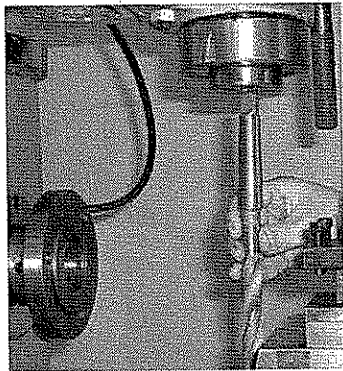
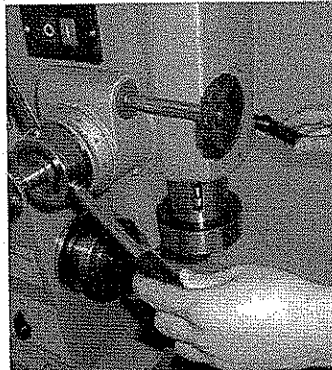
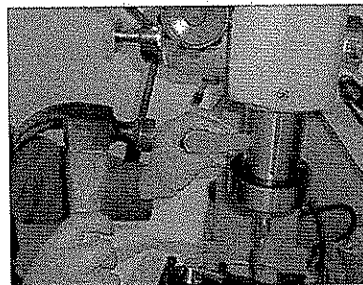

Fig. 23
Fig. 24
Fig. 25
e). If using a taper shank with a flat end (as shown in Fig.23), the taper shank can be directly inserted into the taper hole of the spindle. ATTENTION: Its flat end should be aligned with the long slot in the spindle. When demounting, move the quick-moving handle to lower the sliding sleeve until the long slot comes out, then lock the sliding sleeve as shown in Fig. 24. Put the tool-withdrawing wedge, included in the accessories, into the long slot of the sliding sleeve, and lightly knock it with a hammer as shown in Fig. 25. Take care to catch the taper shank.